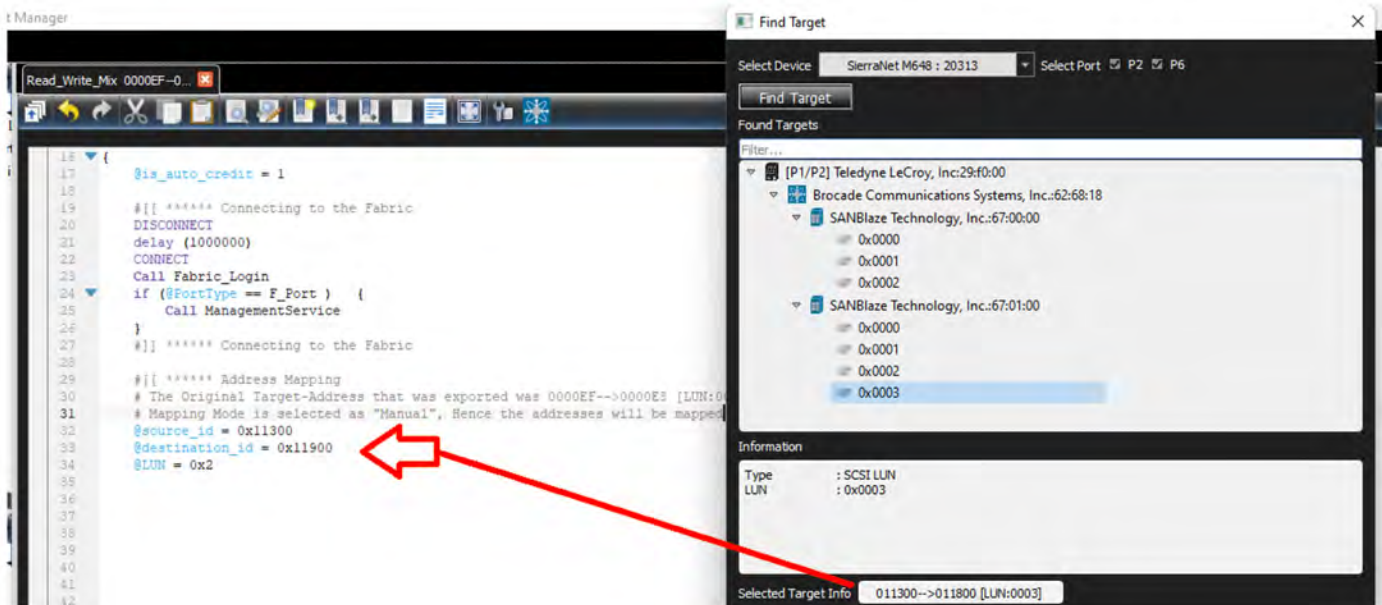

Figure 8.47: Script Changes
- You can edit the target in the Exerciser Script, as shown in Figure 8.47. Simply change the variable's value with the newly mapped target. This feature helps to avoid exporting the trace again and again, if the intention is to just change the mapping of the target.